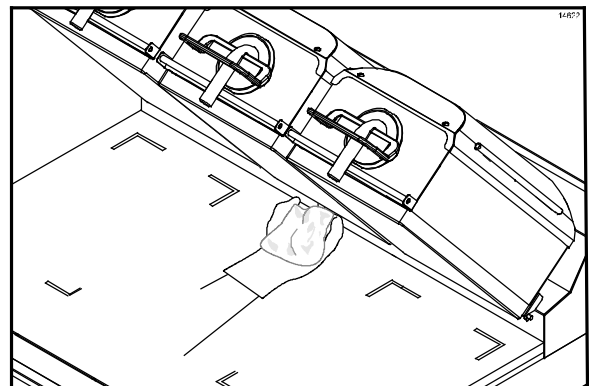

Figure 66
38. Clean the surrounding areas such as the hood, bull nose, and back splash, with a clean, sanitizer-soaked grill cloth. (See Figure 66.)